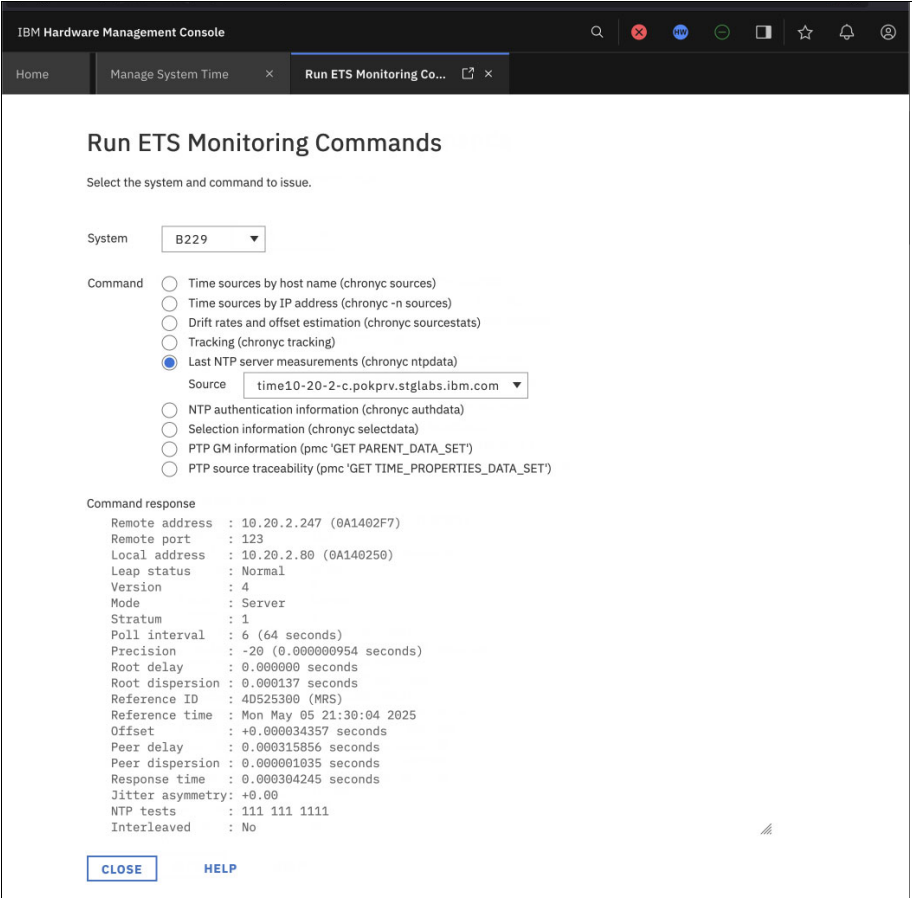

Figure 4-53 Last NTP server measurements
5. Last NTP server measurements are shown in Figure 4-53